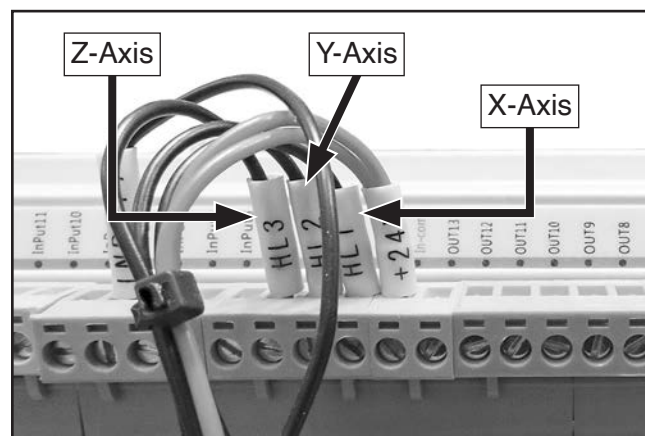

Figure 86. Location of motion controller proximity switch/sensor terminals.
9. Swap faulty axis proximity switch/sensor signal wire on motion controller (see **Figure 86**) with any known good axes signal wire (HL1=X-axis, HL2=Y-axis, HL3=Z-axis).